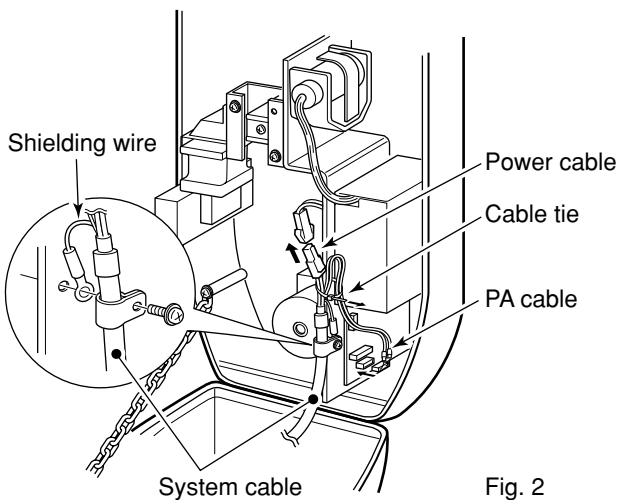

Fig. 2
- ③ Connect the power cable (black and red) end to the power unit connector through the roused cable tie. (Fig. 2)
- ④ Insert the PA cable (black and white) connector to the PA unit connector. Be sure to follow the diagram below carefully. (Fig. 2)
- ⑤ Connect the shielding wire to the chassis with the screw as shown in the diagram. (Fig. 2)
- Fix the PA cable with the roused cable tie as illustrated in Fig. 2.